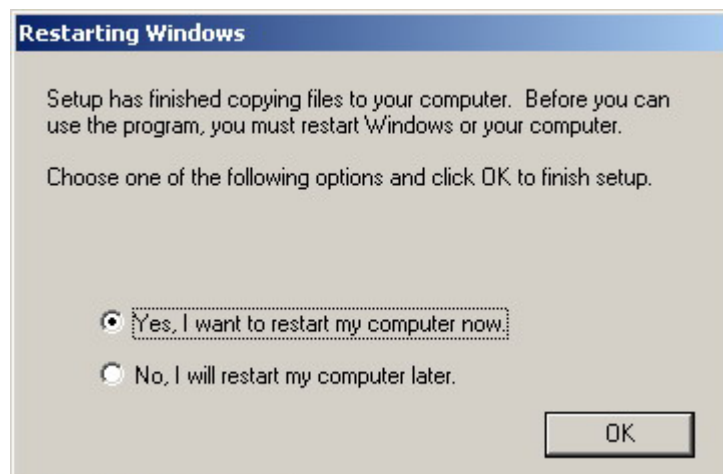

Figure 6-9: Restart the Computer
Step 10: The drivers are then installed onto the system. After the installation is complete the user is prompted to restart the computer now or later. (See **Figure 6-9**)